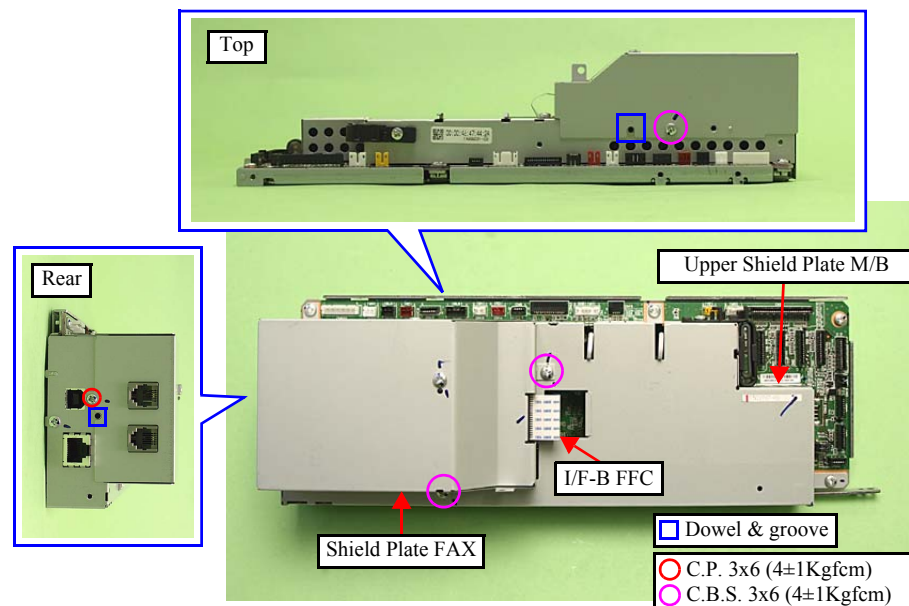

Figure 4-43. Removing the FAX Board (1)
1. Disconnect the I/F-B FFC from the FAX Board. (See Fig. 4-43.)
- Align the grooves (x2) of the Shield Plate FAX with the dowels (x2) of the Upper Shield Plate M/B. (See Fig. 4-43.)